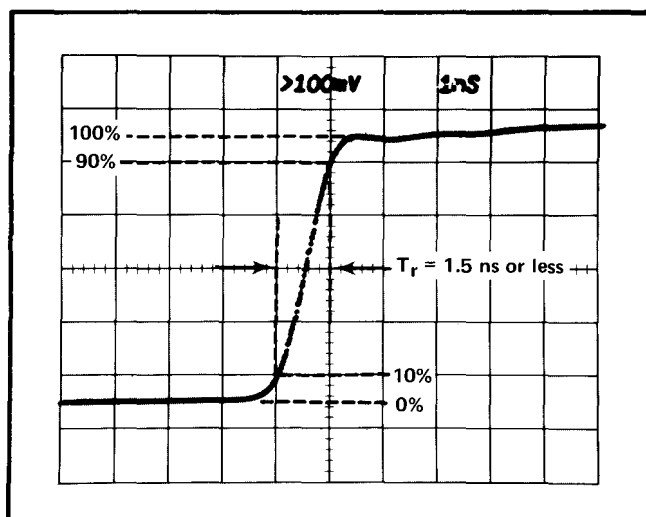

Fig. 5-10. Incident pulse risetime of the S-5, S-54 and 7S12 system.
b. ADJUST the mV/DIV VARIABLE control so that the 0% and the 100% levels are 5 div apart. The 0% level is the well defined base of the pulse. The 100% level must be established in the manner described in step 4c of the S-6, S-52 and 7S12 System check, since the top of the pulse is not well defined. The risetime to be used in the procedure is 1.5 ns. See Fig. 5-10 for the waveform.